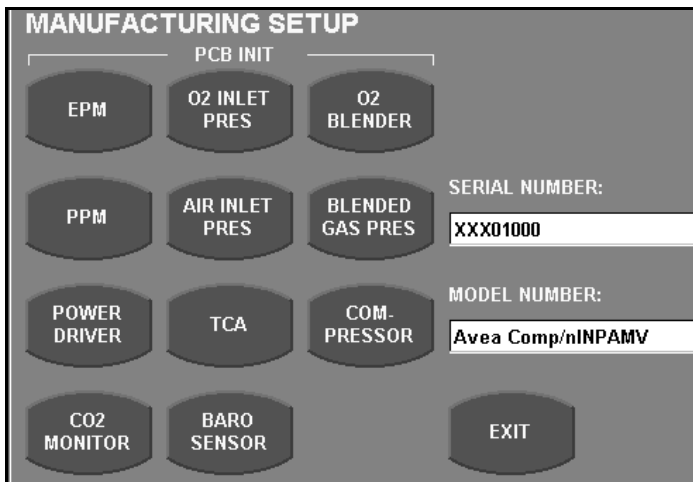

Figure 7.43
1. Go to MFG screen and enter password. Figure 7.43 will appear.